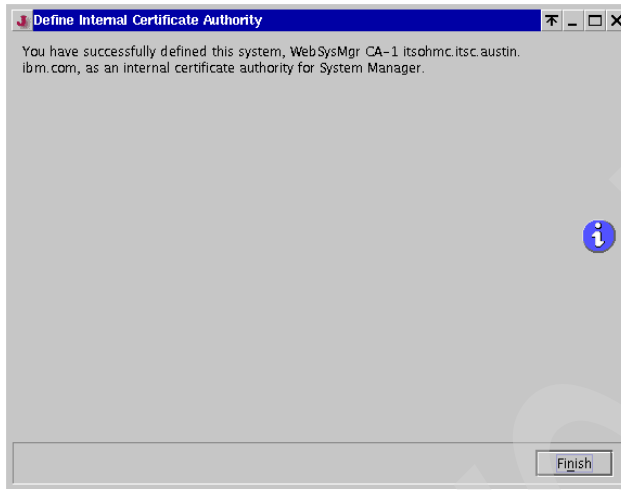

Figure 7-8 CA configured message
7. The wizard shows the information message shown in Figure 7-8 on page 132. Click **Finish** to close the window.